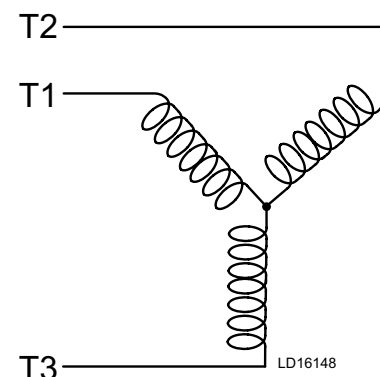

FIGURE 68 - MOTOR WINDINGS DIAGRAM
- Use a resistance meter to measure the winding resistance phase-to-phase as shown in *Figure 68 on page 135*. The nominal values are listed below, but the preventive maintenance program should trend the values for gross changes.